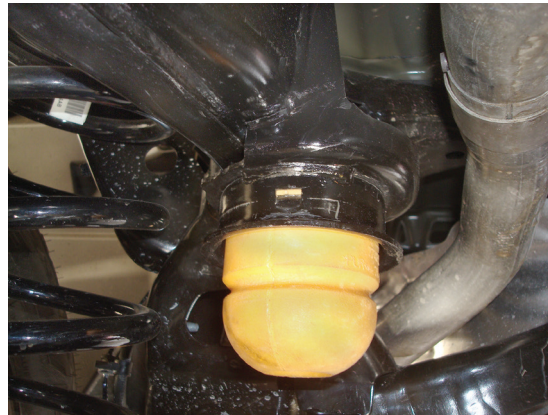

fig. D.2
2. Twist and pull the jounce bumpers to remove them from the mounting cups (Fig. D.2).